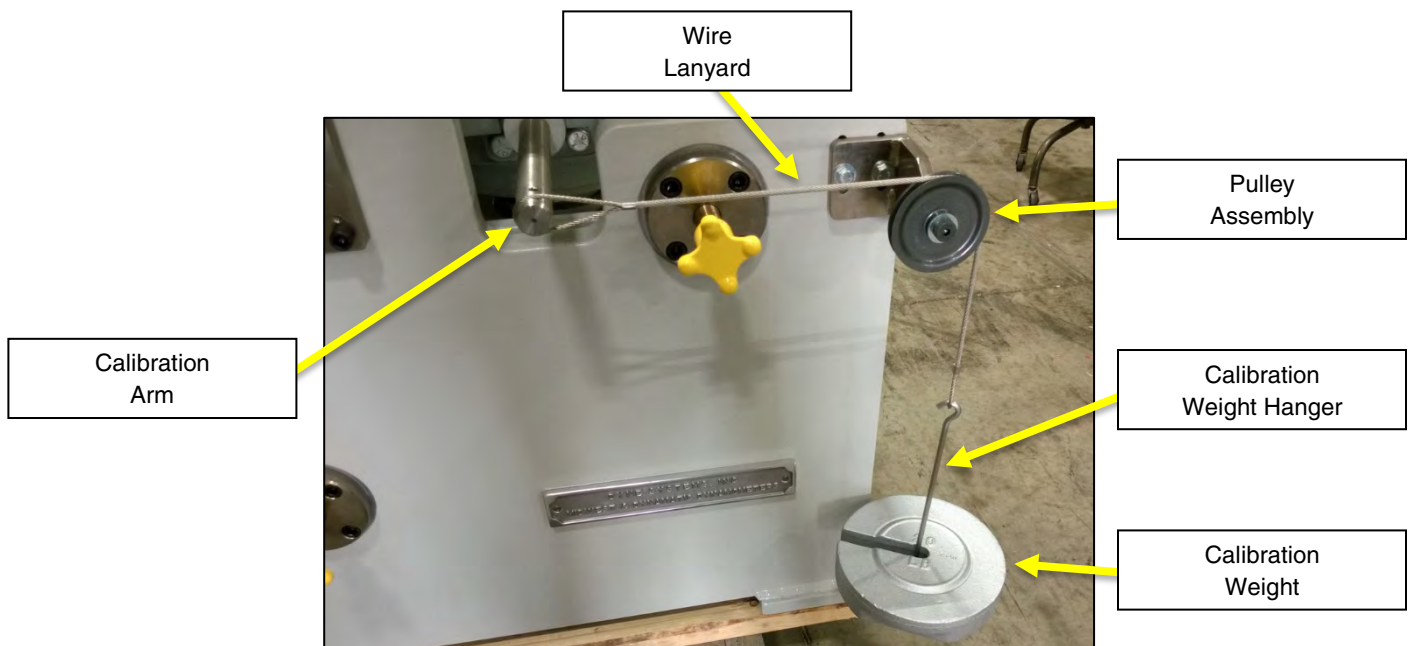

Fig. 5
3. Place the desired calibration weights on to the weight hanger (Figure 5).